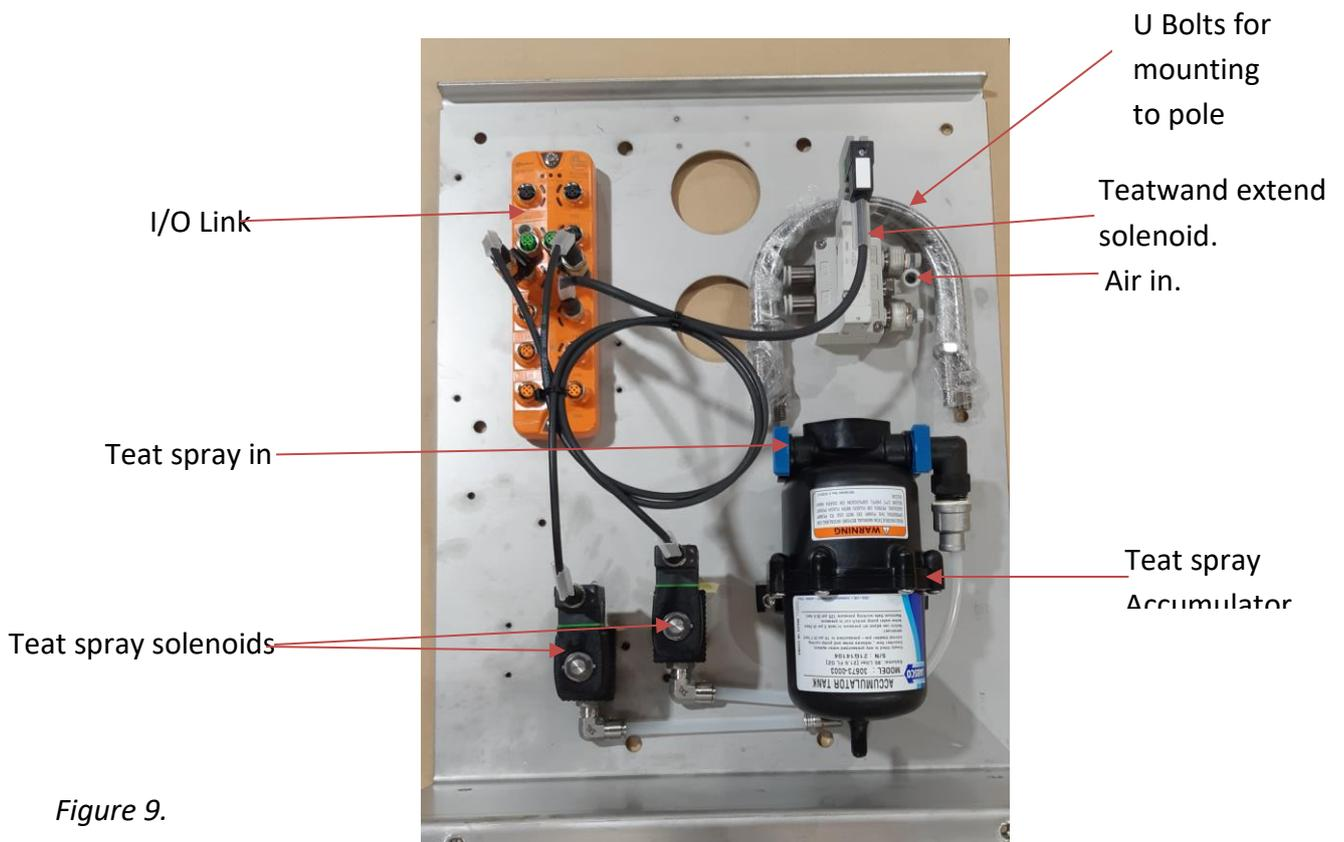

Figure 9.
6. Select a tag for the Stall Sensors to detect. Consider potential mounting options. See *Figures 9 through 15*.